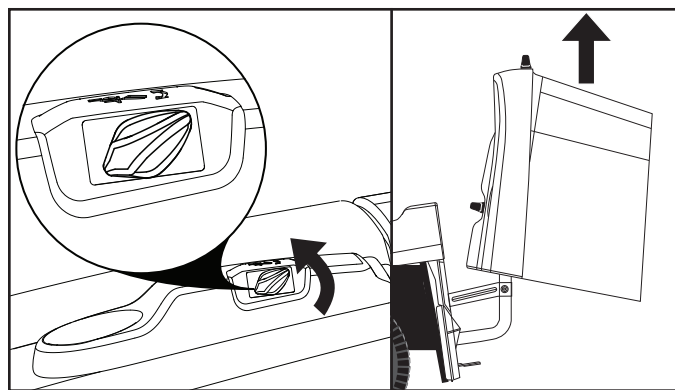

Fig. 20
TO OPERATE ELECTRIC DUMP SYSTEM (See Fig. 20 & 21)
- To lift the bagger, turn the electric dump switch counter clockwise. See Fig. 20.